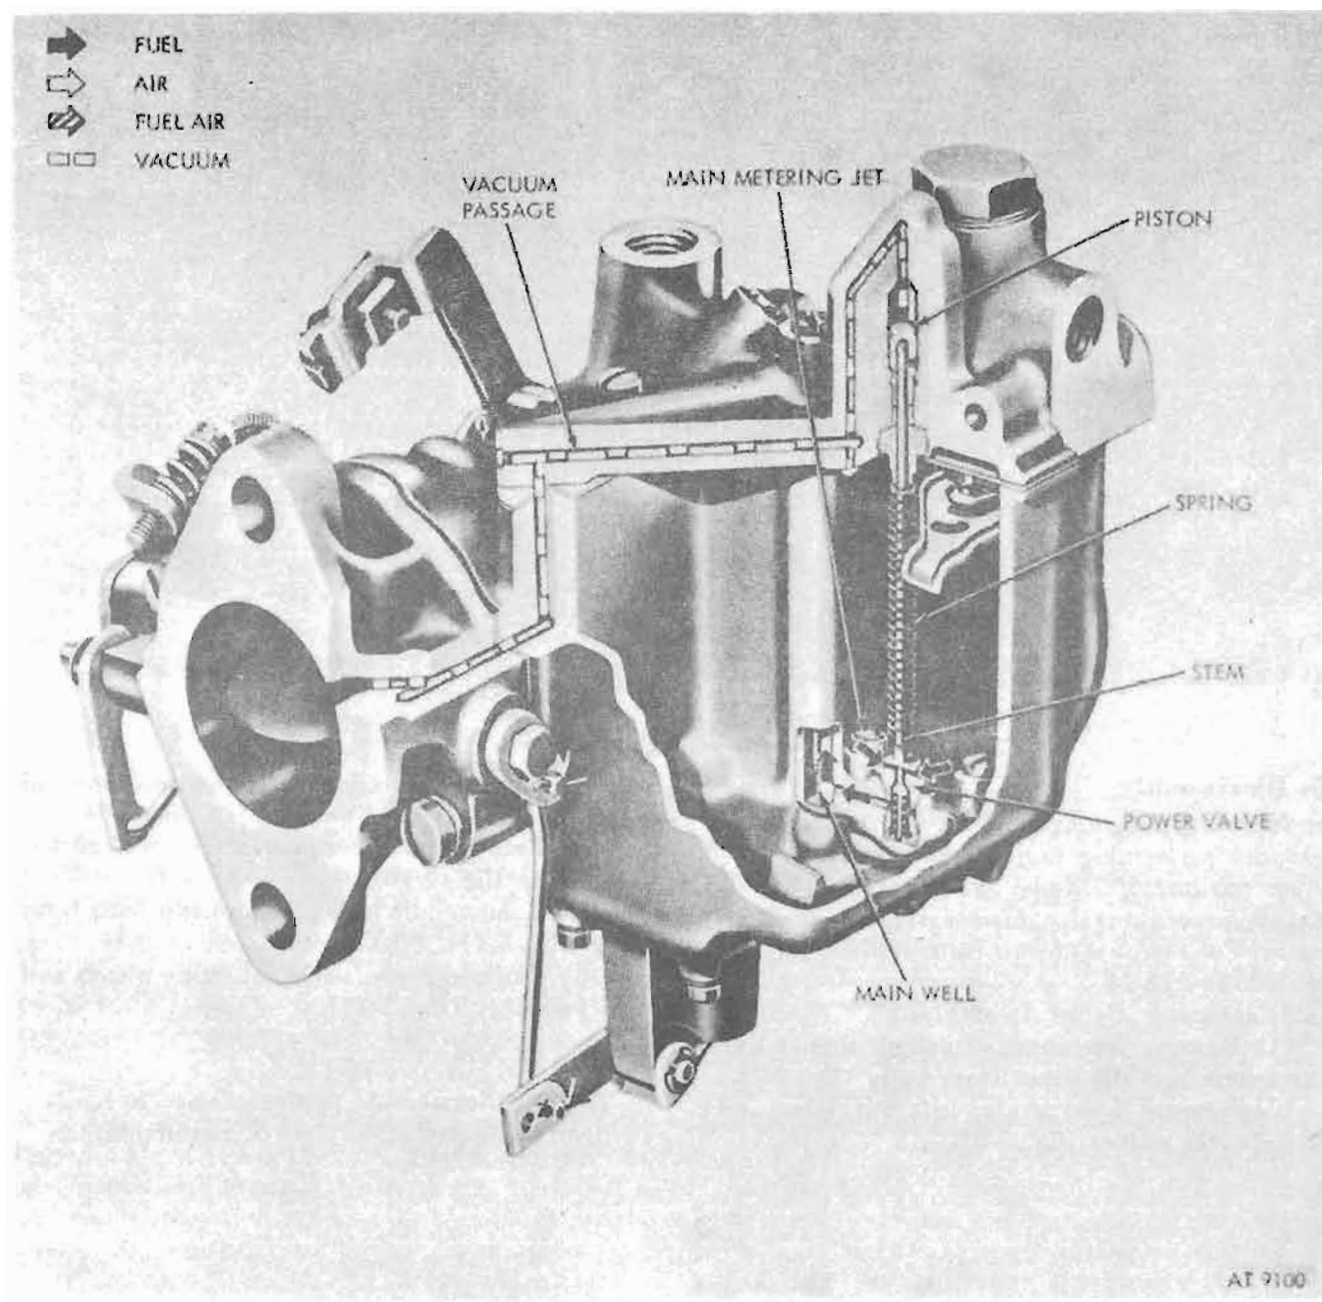

Figure 5-4. Power system.
d. Power System (fig. 5-4). Purpose of the power system (sometimes called economizer system) is to supply added fuel for a proper mixture to enable the engine to develop maximum power. The main metering system by itself cannot deliver maximum power. The main metering system by itself cannot deliver sufficient fuel to supply engine needs at high speed and full power. At idle and cruising speeds, manifold vacuum is strong enough to hold the power valve actuating piston up against the compressed load of the spring. When a high engine load is applied (when the throttle opens suddenly on acceleration) manifold vacuum drops. The drop in vacuum allows the spring to expand, forcing piston and stem assembly down, moving the power valve to the open position. Depressing the valve opens it and allows fuel to pass through.